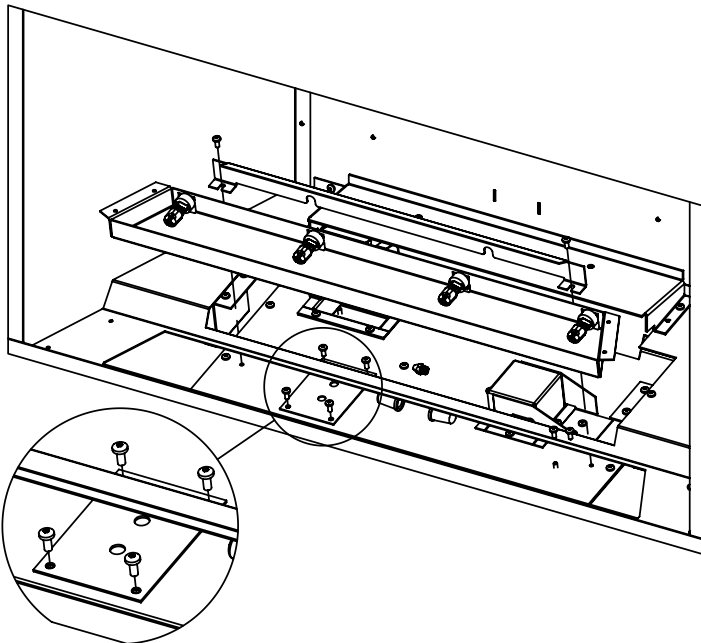

Figure 23. Wire Plate Removal
5. Remove wire cover then lift up light tray to reveal wire plate, remove the four (4) T-20 screws and feed the wires out along with the light tray (see Figure 23). Disconnect the wire connectors to fully remove. Do not ever remove marettes.